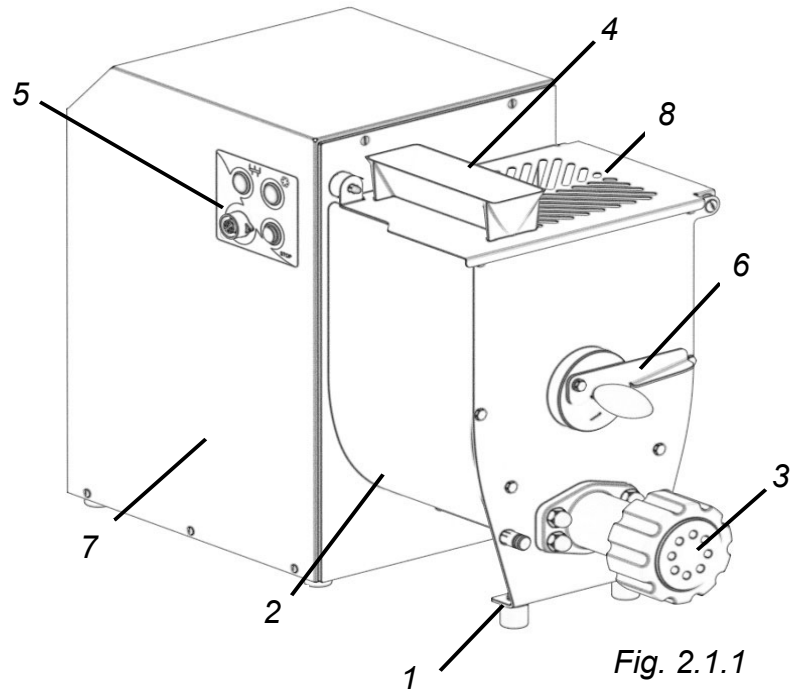

Fig. 2.1.1
To facilitate the understanding of the manual, hereafter there are listed below and shown in fig. 2.1.1. the main parts of the machine
2. Close the top cover and insert the funnel "4" (Figure 2.1.1) on the feeder cap